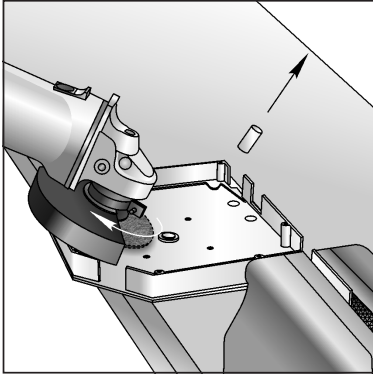

Fig. 01
- a) If SF137-SF205, SF250/S caps are used, it is necessary to cut off the central shank of the cap flush with the wall only for the cap installed at the side of the drive (Fig. 01);